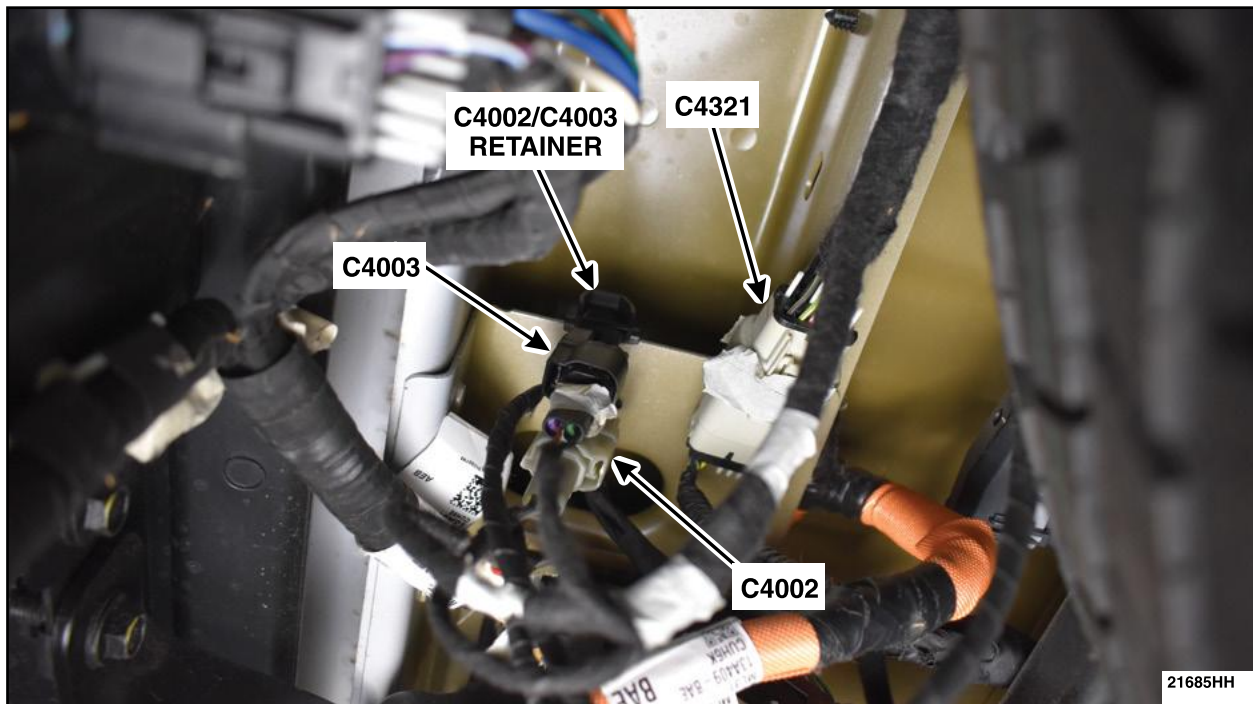

FIGURE 34
39. Reconnect C4002, C4003, C4321 and the C4002/C4003 retainer. See Figure 34.